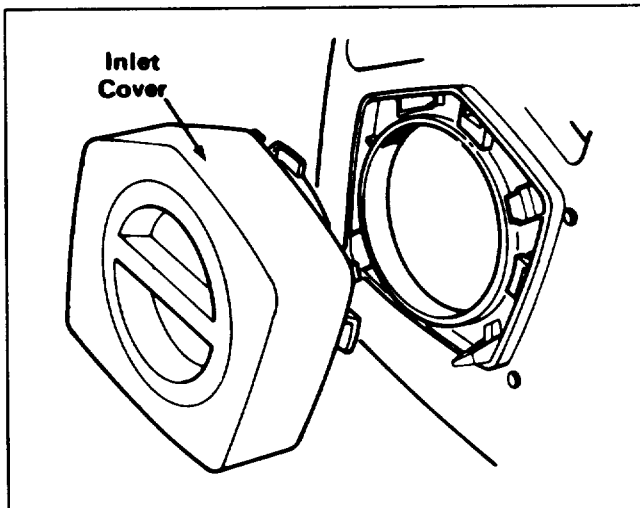
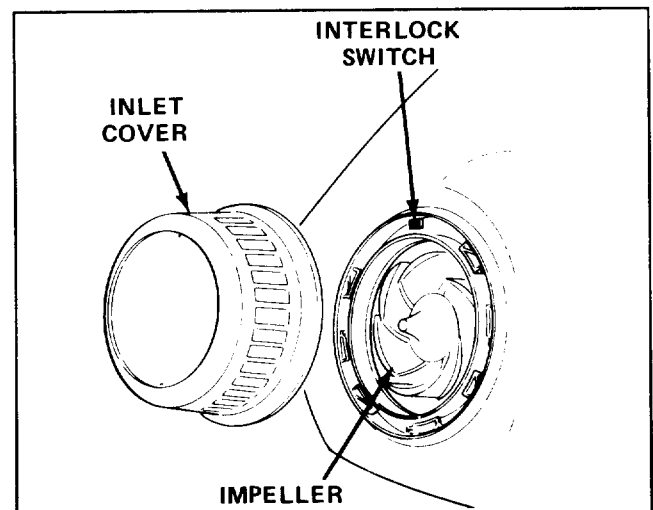

Figure 1
Figure 2
2. Grasp inlet cover and rotate it counterclockwise until locking tabs release. Remove cover. (Fig. 1 for 450, 550 & 850) (Fig. 2 for 600, 700 & Yard Blower-Vac™).